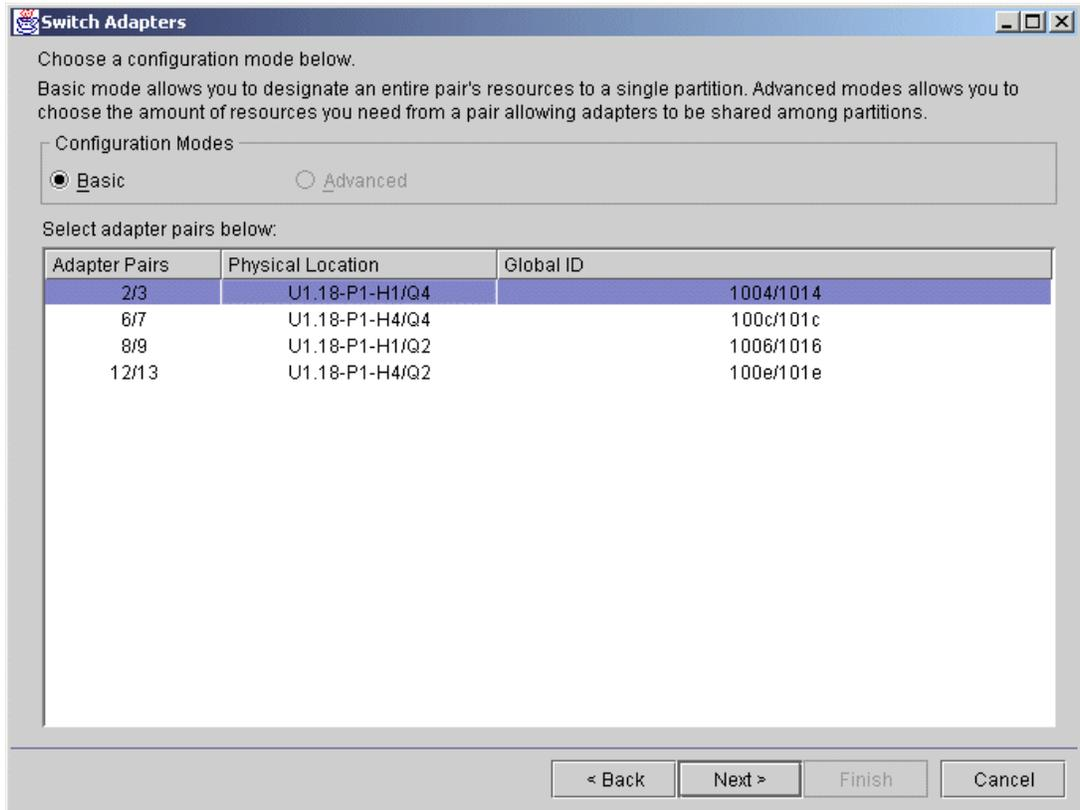

Figure 14 Assign the SNIs to the LPAR
4. Select the CPU, memory, and I/O resources for the new partition. After providing the CPU and memory resources, select the SNIs for your partition. See Figure 14 on page 25.